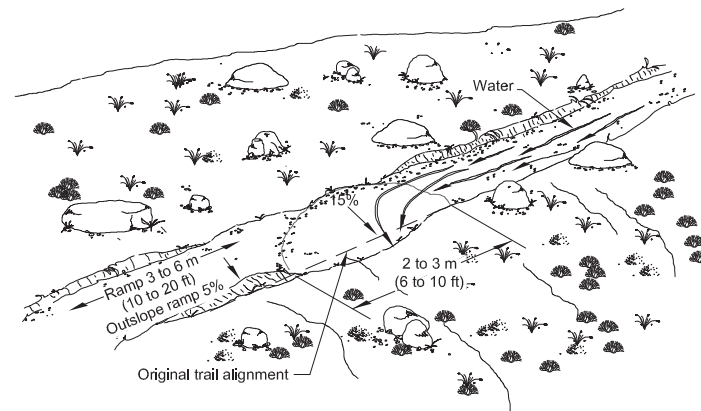

Figure 16—A rolling grade dip builds on the knick design. It helps direct water off steeper sections of existing trail.
- A return to the descent (figure 16).